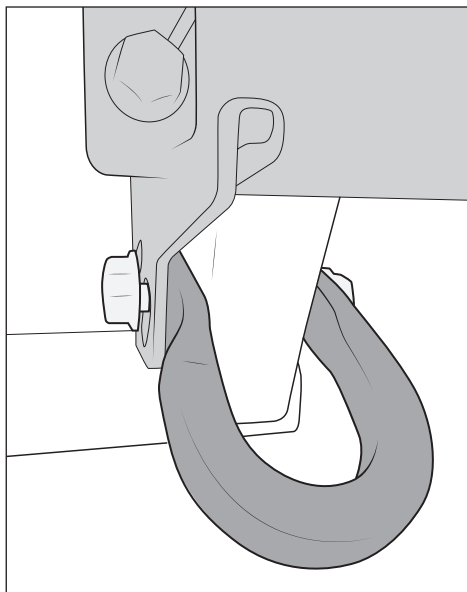

Figure 6
4. Reinstall tow hooks using factory hardware (fig. 6).